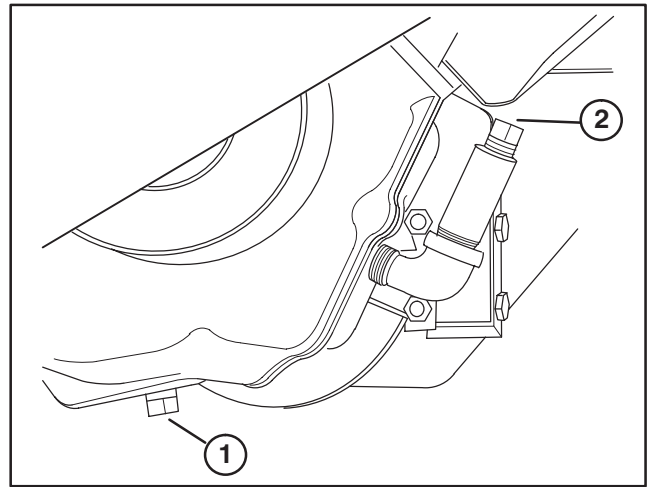

Figure 29
1. Place a drain pan below drain plug on axle. Clean area around drain plug (Fig. 29).
3. Remove fill plug (Fig. 29) and pour approx. 64 oz. of SAE E.P. 90 wt. oil into extension tube. Stop when oil level reaches top of tube.